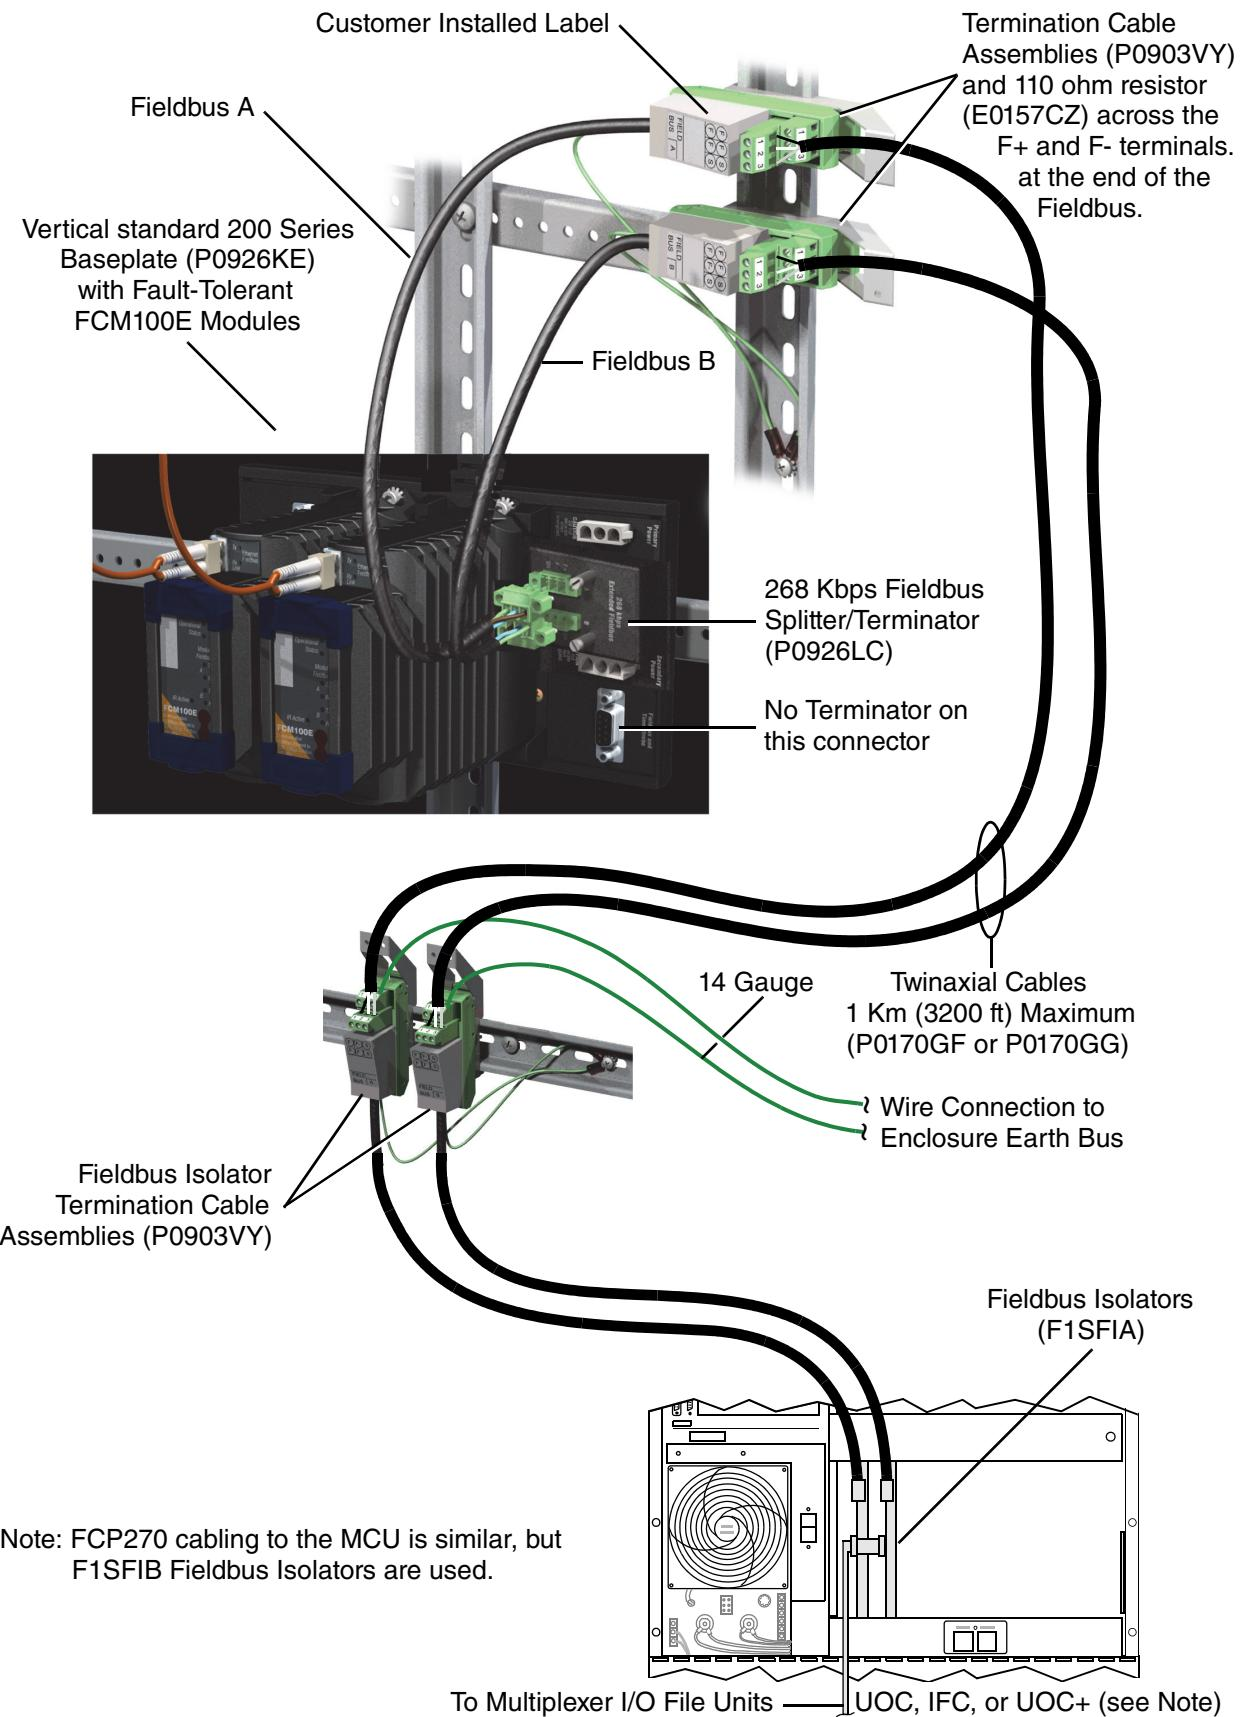
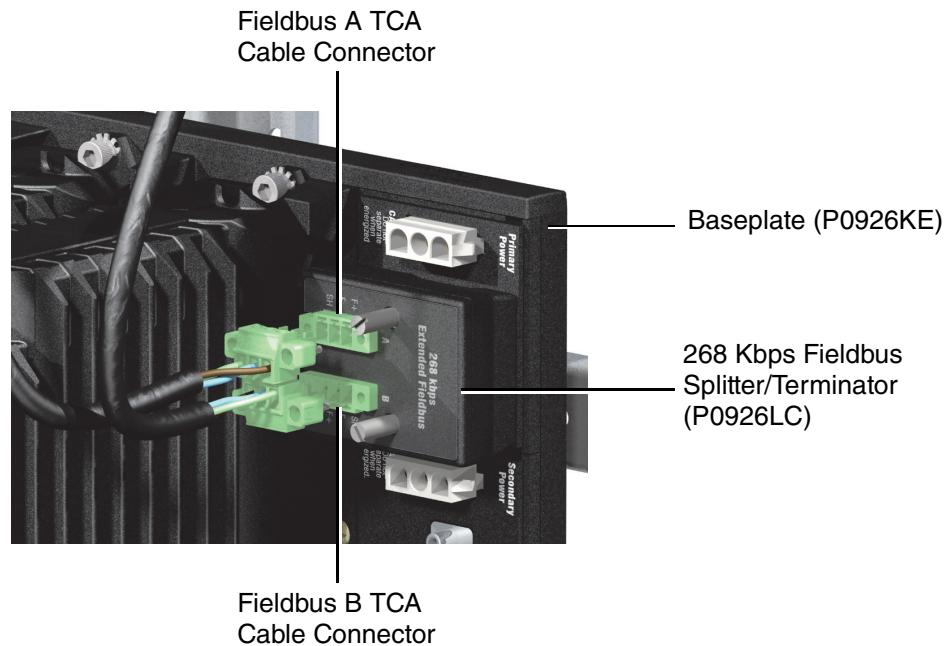
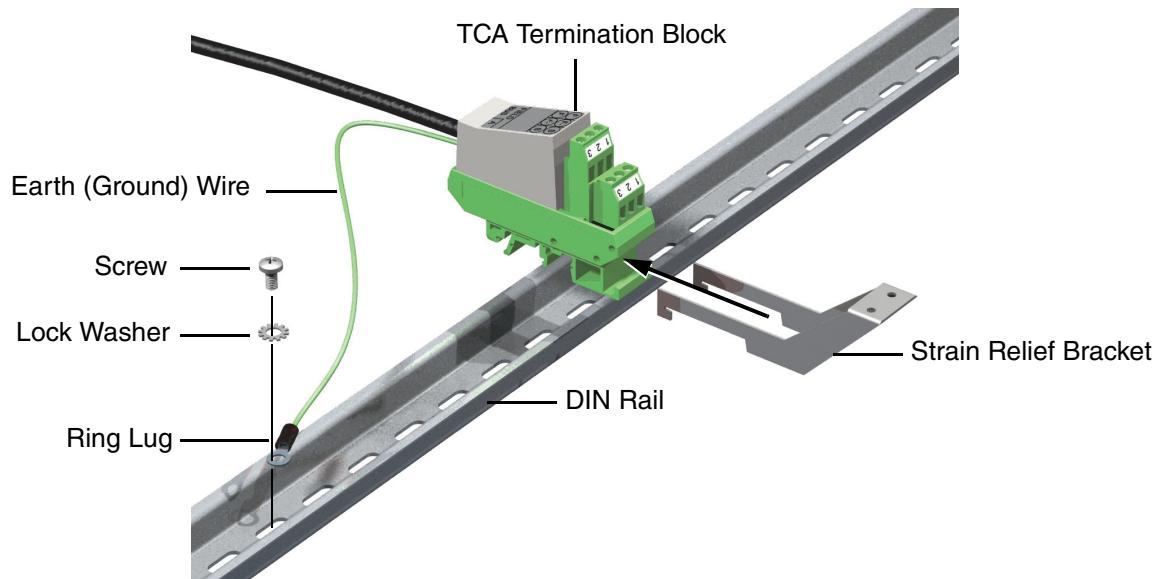

Figure 4-19. Cabling Fieldbus Isolator Cards to an FCM100E Baseplate
Figure 4-20. TCA Cable Connection to 268 Kbps Fieldbus Splitter/Terminator
Figure 4-21. TCA Termination Block Assembly Mounting
2. Install terminating resistors at both ends of the extended fieldbus cable. For the last TCA in the fieldbus, install the termination resistor between terminals 1(F) and 2(F-) and the The earth (ground) wire (14 Gauge) must connect to terminal 3(S) as shown in Figure 4-19.
Cabling a FCM100E baseplate to the Fieldbus Isolators (F1SFIA or F1SFIB) consists of extending the remote 268 Kbps fieldbus from the isolators (see Figure 4-19). This extension, used between enclosures, involves the use of termination cable assemblies (TCAs) to provide cable connections between primary and extended fieldbus segments, for a maximum fieldbus length of 1830 m (6000 ft). If the fieldbus is non-redundant, only one TCA is connected to the fieldbus splitter/terminator (P0926LC) which is shown in Figure 4-20. TCA part number P0903VY includes a strain relief bracket, labels for bus A and B, and a 110 ohm terminating resistor (E0157CZ) which should be installed across the F+ and F- terminals at the end of the Fieldbus. You must install one of the labels on the TCA (see Figure 4-19 for label orientation)
Remote fieldbus extension cable connections are implemented as shown in Figure 4-19 and Figure 4-24.
1. Referring to Figure 4-20, assemble the termination blocks associated with the termination cable assemblies (P0903VY) for the FCM100E Modular Baseplate, snap them onto the mounting rails (DIN rails) in the enclosure, and connect the ground wires. (For future reference, Figure 4-21 illustrates how to remove the TCA termination blocks.)
2. Connect the fieldbus splitter/terminator (P0926LC) to the “Fieldbus and Time Strobe” connector on the FCM100E baseplate (see Figure 4-19).
3. Make the cable connection(s) to the fieldbus splitter/terminator as shown in Figure 4-20.